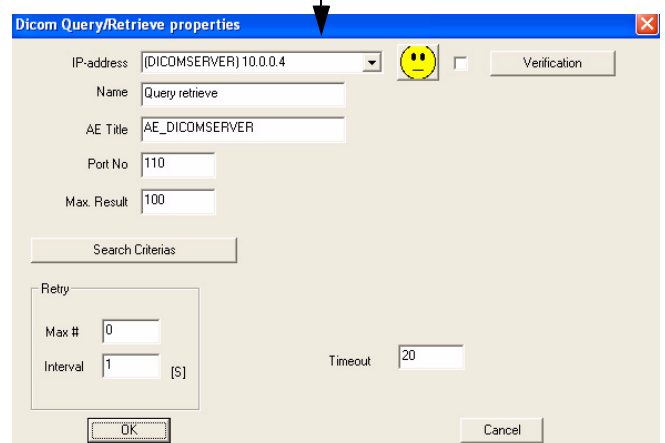

Figure 3-129 Select Query/Retrieve's Properties
- 4.) Select **Query Retrieve** from the *Name* pull-down menu - see Figure 3-129 on page 3-121.